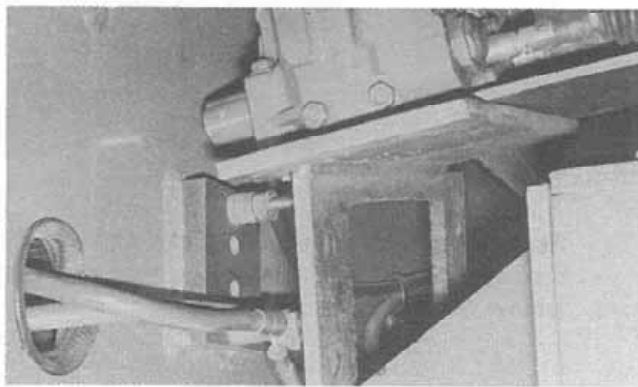

Figure 9:
12. At the electrical terminal block inside the frame, remove the two (2) battery ground cables from the stud (Fig. 9), and proceed to remove the valve bracket from the side of the transfer case.